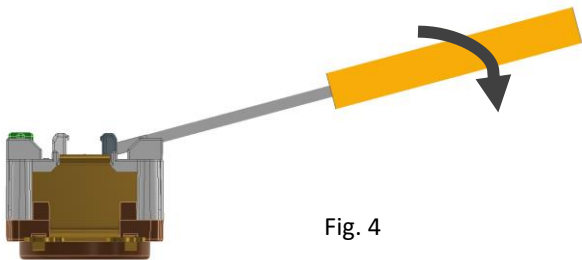

Fig. 4
- To lift a plunger from the down to the up position, insert a screwdriver into the plunger slot. Using a 1/8” - 3/16” flat blade screwdriver, and the provided leverage point, lift the plunger until it is in the up position – see Fig. 4. DO NOT USE PLIERS TO PULL PLUNGERS.